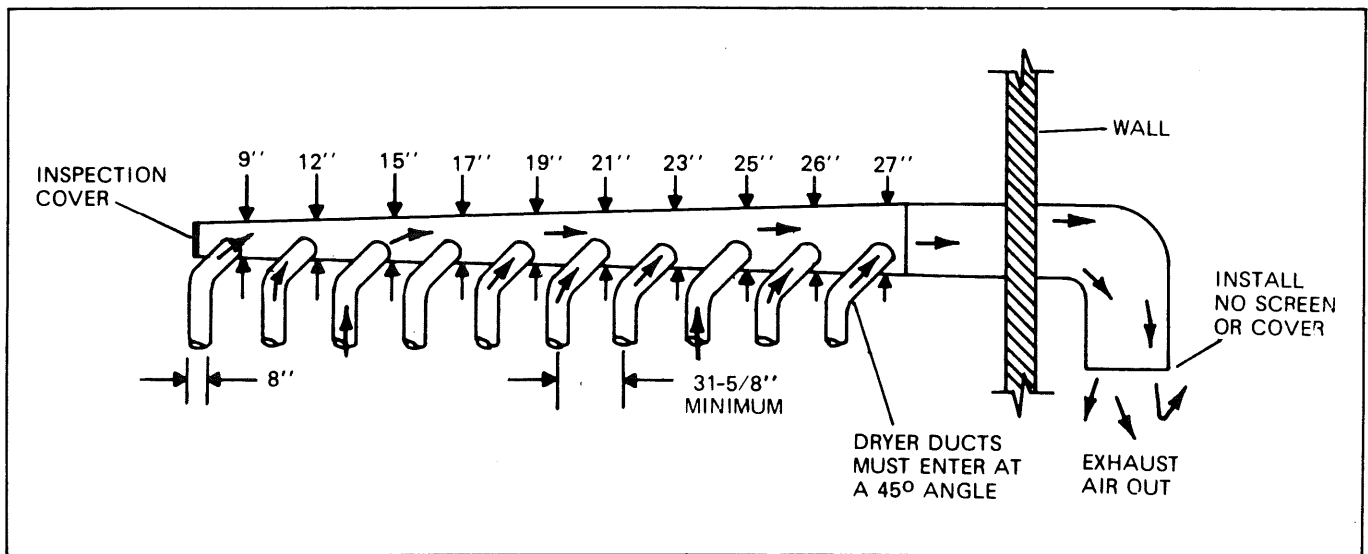

Figure 1-1. Dryer Exhausting Using A Main Discharge Duct
Installation of several dryers where a main discharge is necessary, will need the following considerations for installation (See Fig. 1-1). Individual 8" ducts from the dryers into the main discharge duct should be at a 45° angle in the direction of discharge air flow.
**NOTE:** Never install the individual 8" ducts at a right angle into the main discharge duct. The individual ducts from the dryers can enter at the sides or bottom of the main discharge duct. Figure 1-1 indicates the various round main duct diameter to use with the individual dryer ducts. The main duct can be rectangular or round, provided adequate air flow is maintained. For each individual dryer, the total exhausting (main discharge duct plus duct outlet from the dryer) should not exceed the equivalent 20 feet and two elbows. The diameter of the main discharge duct at the last dryer must be maintained to exhaust end.